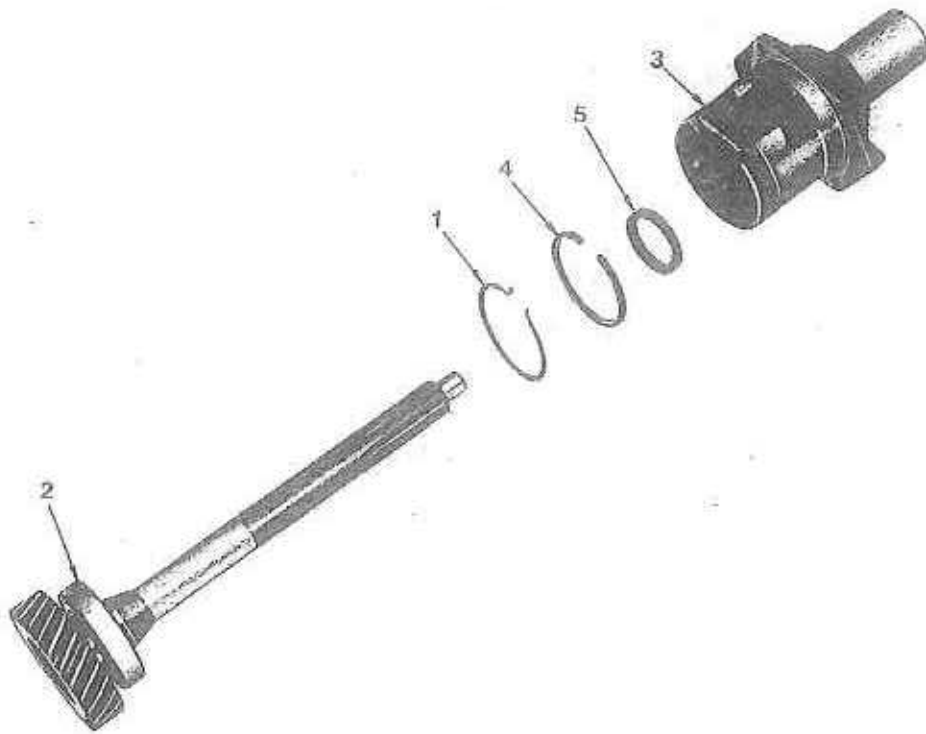

FIG. 4
2. (Fig. 4) Remove the snap ring (1) that secures the bearing and drive shaft assembly (2) to the retainer (3).
4. Extract the snap ring (4).
5. Carefully remove the oil seal (5) from the retainer.